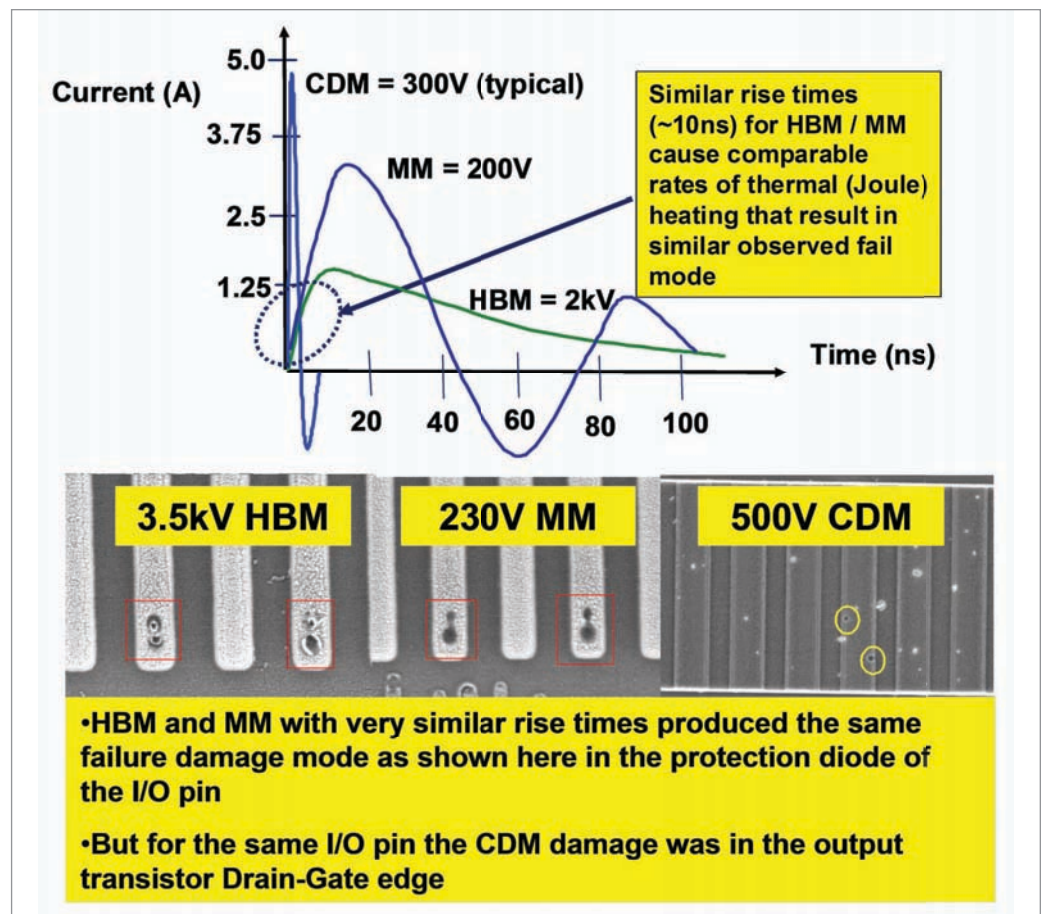

Figure 1: Comparison of HBM, MM and CDM waveforms
**Figure 1: Immunize your products and facilities. Voltage sag immunity testing has been common in the semiconductor industry for years and has proved its economic value. New IEC standards for voltage sag immunity will expand this kind of testing and certification to other industries.**
The waveforms for HBM, MM and CDM are compared in Figure 1. The HBM and MM have similar ranges
breakdown. Even more important, the observed ESD field failures are dominated by oxide breakdown when the CDM level is not adequate. Thus, a different set of protection strategies are generally needed for CDM. This makes it even more critical to focus on CDM qualification, instead of duplicating the HBM test information by using the MM. In Figure 1, we also show the observed failure modes for the same I/O pin after stressing with HBM, MM and CDM. It is clear that with HBM and MM the damage sites were the same in the protection diode, but with CDM stress the damage site corresponds to oxide breakdown in the output transistor. This also illustrates the fact that meeting high levels of MM does not improve CDM performance until the right effective design techniques are employed.
the MM waveform (Figure 1), and therefore MM cannot represent very fast metal-to-metal contact discharge as CDM does. On the other hand, the CDM test is directly represented by elevating the package potential and directly grounding the pin to produce the fast discharge. MM cannot be relied on to accurately model fast metal to metal contact discharges, which are known to occur in the field.